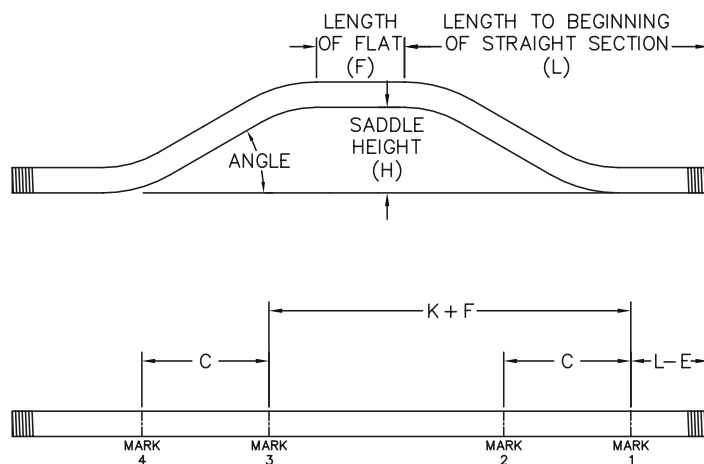

FIGURE 19B
1. Determine the length to the start of the flat section (L), the length of the flat section (F), saddle height (H), and angle for the saddle (See Figure 19B).
3. Using the desired angle, locate the “E” value that corresponds to the desired height (H). Deduct this value from the length (L) and make a mark this distance from the end of the conduit. This is your first bending mark (Mark 1).
4. Next locate the “K” value that corresponds to the desired height (H). Add this value to the length of the flat section (F) and make a mark this distance from Mark 1. This will be your third bending mark (Mark 3).
5. Lastly, locate the “C” value that corresponds to the desired height (H). Make one mark this distance from Mark 1. This will be your second bending mark (Mark 2). Then make another mark the distance “C” from Mark 3 (see Figure 19B). This is your fourth bending mark (Mark 4).